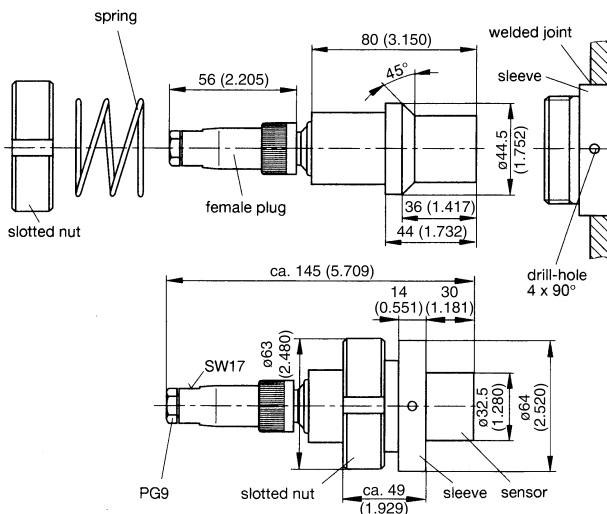

Fig. 1
1. Ensure sufficient clearance space (see fig. 1 and 2) in the container wall.
#### Installation STD (fig. 1):
1. Loosen the gland (PG9) (see fig. 1) and remove it together with clamping piece and bushing.